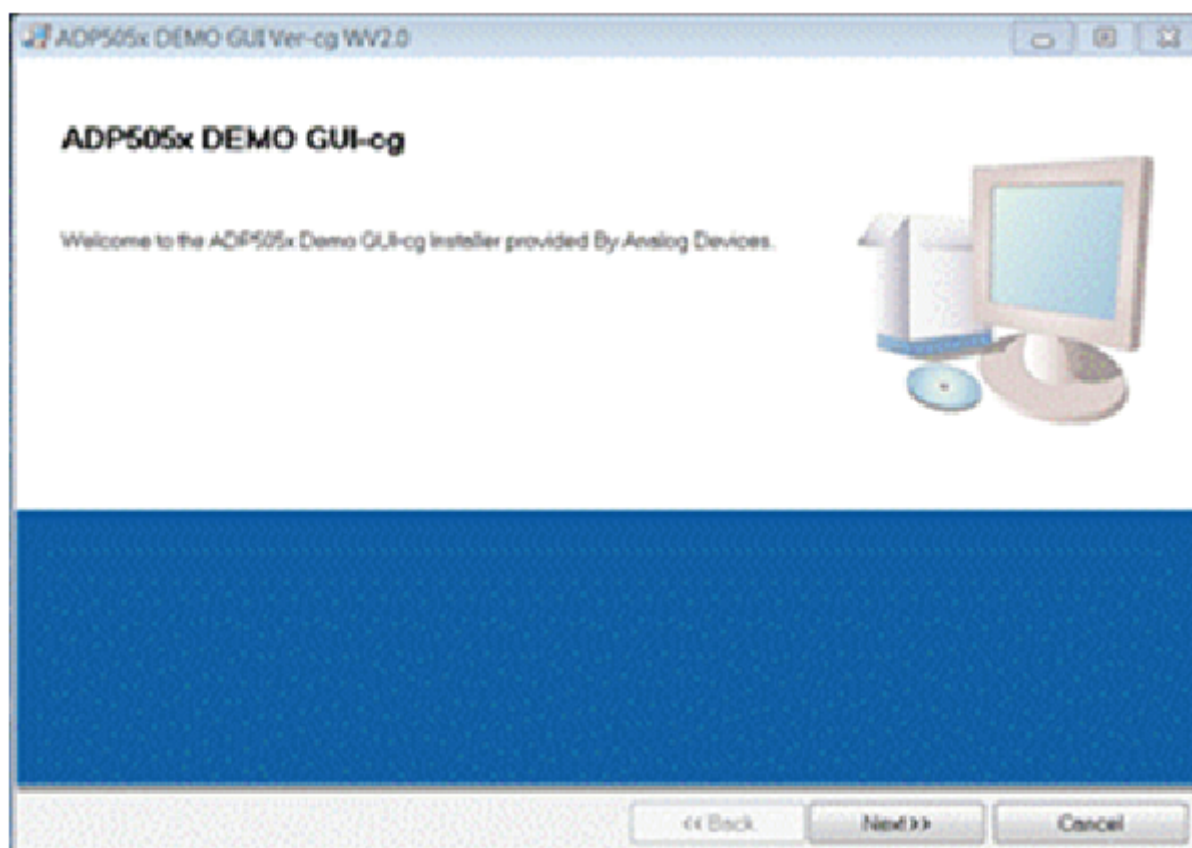

Figure 2. ADP5051 Evaluation Software Setup
1. Launch the **Setup.exe** file. When the dialog box shown in Figure 2 appears, click **Next** to continue.